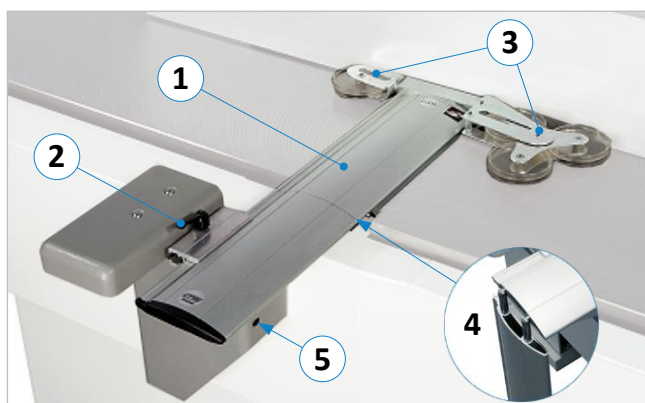

Figure 7: Components & controls
- To do this, lift the bridge manually from the table and let it fall. If it drops too abruptly or stops before it is at table height, adjust the balance spring setting with screw (N). The screw is accessed through the opening (5) shown in ⇒ Figure 7.
- Turn screw (N) clockwise less → Spring thrust decreases
The wheel unit (3) at the end of the aluminium bridge (see ⇒ Figure 7) can be turned into the vertical, horizontal and 45° position. In the horizontal position, it can also be folded down by 180°.